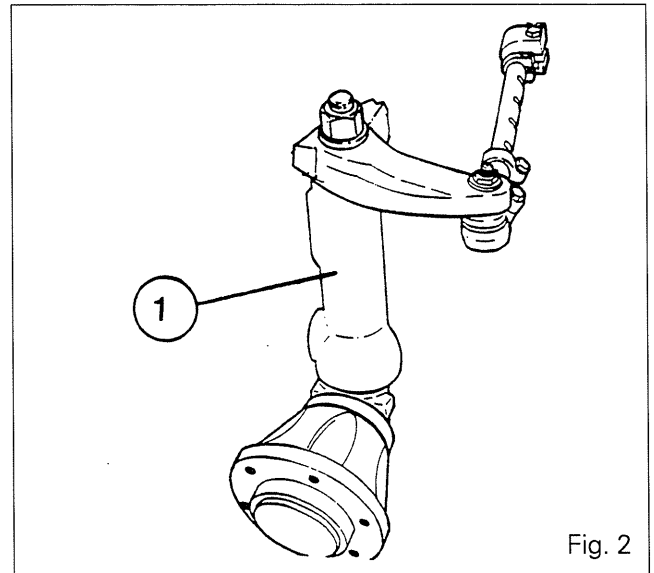
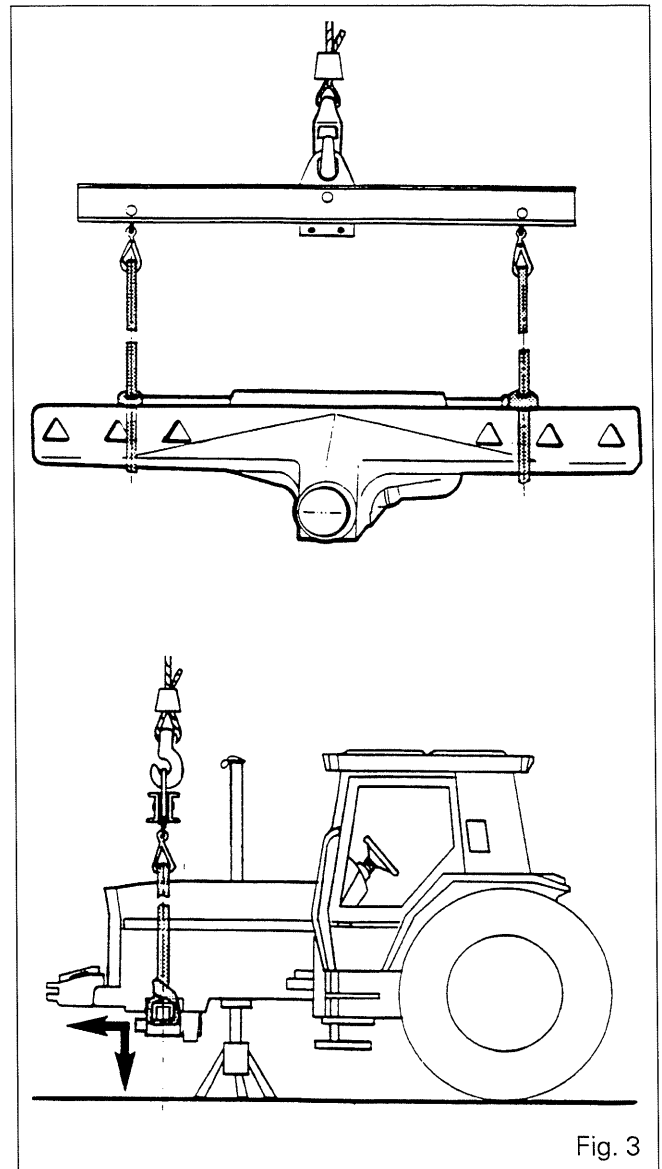

Fig. 2
Fig. 3
73. Remove the bolts (28) and nuts (8).
74. Remove the nuts (32), washers (31) and bolts (30).
75. Remove the assemblies (1) (Fig. 2).
76. Remove the split pin (43) and the nut (44). Extract the ball joint (45) from the support (46). Detach the ram (29) from the axle beam (9).
77. Hoist the axle with slings (Fig. 3).
93. Lubricate the rods (35) with molybdenum disulphide grease. Refit the assembly (1) (Fig. 2). Fit the nuts (8) and bolts (28). Tighten to a torque of 400 to 600 Nm.
94. Fit the bolts (30), washers (31) and nuts (32). Tighten to a torque of 75 to 81 Nm.